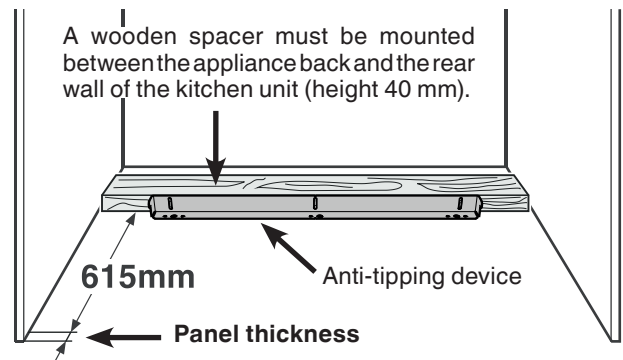

Figure 1
**Positioning the anti-tipping device - figure 1 - 2**
**Kitchen unit with internal door panel - figure 1**